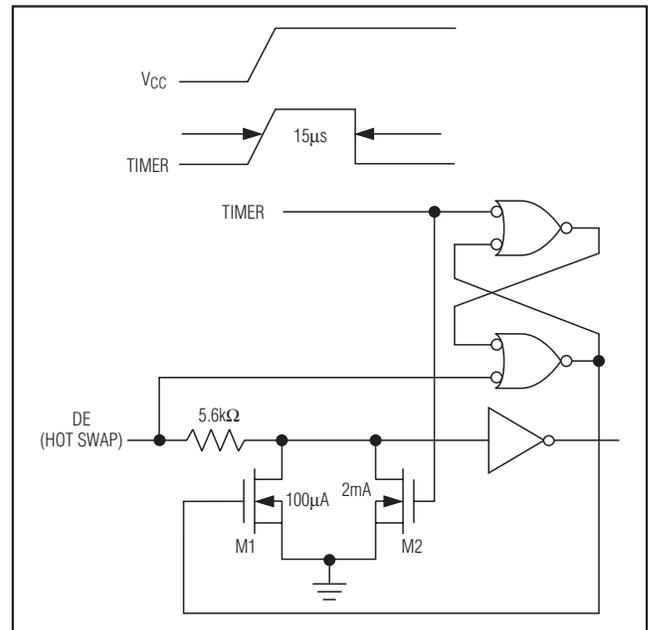

Figure 10. Simplified Structure of the Driver Enable Pin (DE)
At the driver-enable input (DE), there are two NMOS devices, M1 and M2 (Figure 10). When VCC ramps from zero, an internal 15µs timer turns on M2 and sets the SR latch, which also turns on M1. Transistors M2, a 2mA current sink, and M1, a 100µA current sink, pull DE to GND through a 5.6kΩ resistor. M2 pulls DE to the disabled state against an external parasitic capacitance up to 100pF that may drive DE high. After 15µs, the timer deactivates M2 while M1 remains on, holding DE low against three-state leakage currents that may drive DE high. M1 remains on until an external current source overcomes the required input current. At this time, the SR latch resets M1 and turns off. When M1 turns off, DE reverts to a standard, high-impedance CMOS input. Whenever VCC drops below 1V, the input is reset.